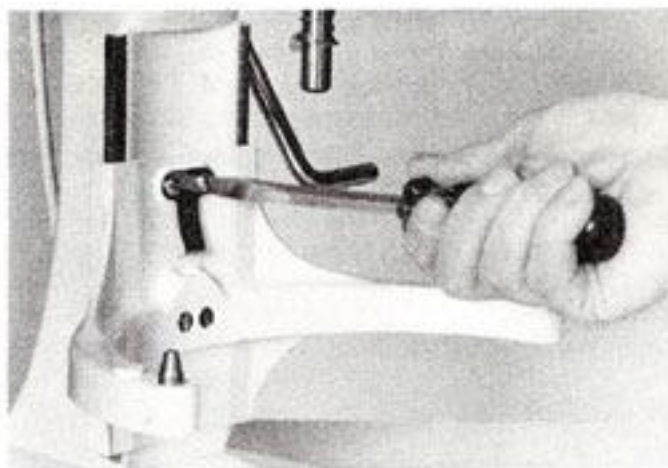

Fig. 97
- L. The bowl spring latch must be installed to complete the repairs to the bowl support. The function of this latch is to hold down the rear of the bowl. Hold latch with bent spring and insert the two #10-24 x $\frac{1}{4}$ " round head screws into the column and turn the screws in tight (Fig. 97).